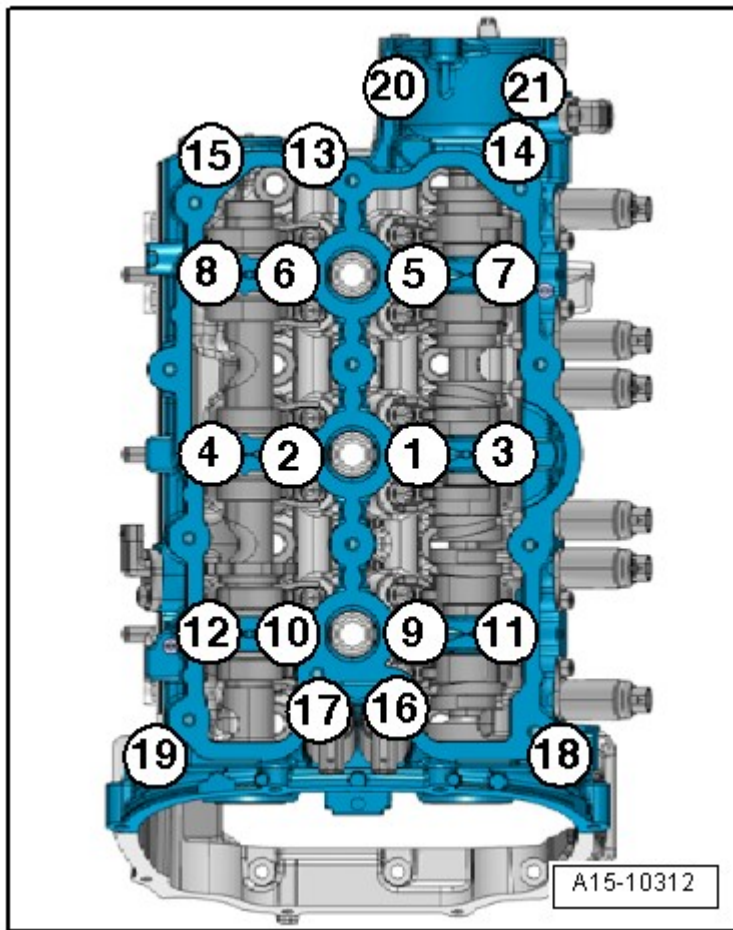

Fig. 18: Guide Frame Bolt, Tightening Sequence
- Tightening sequence **Fig. 18**